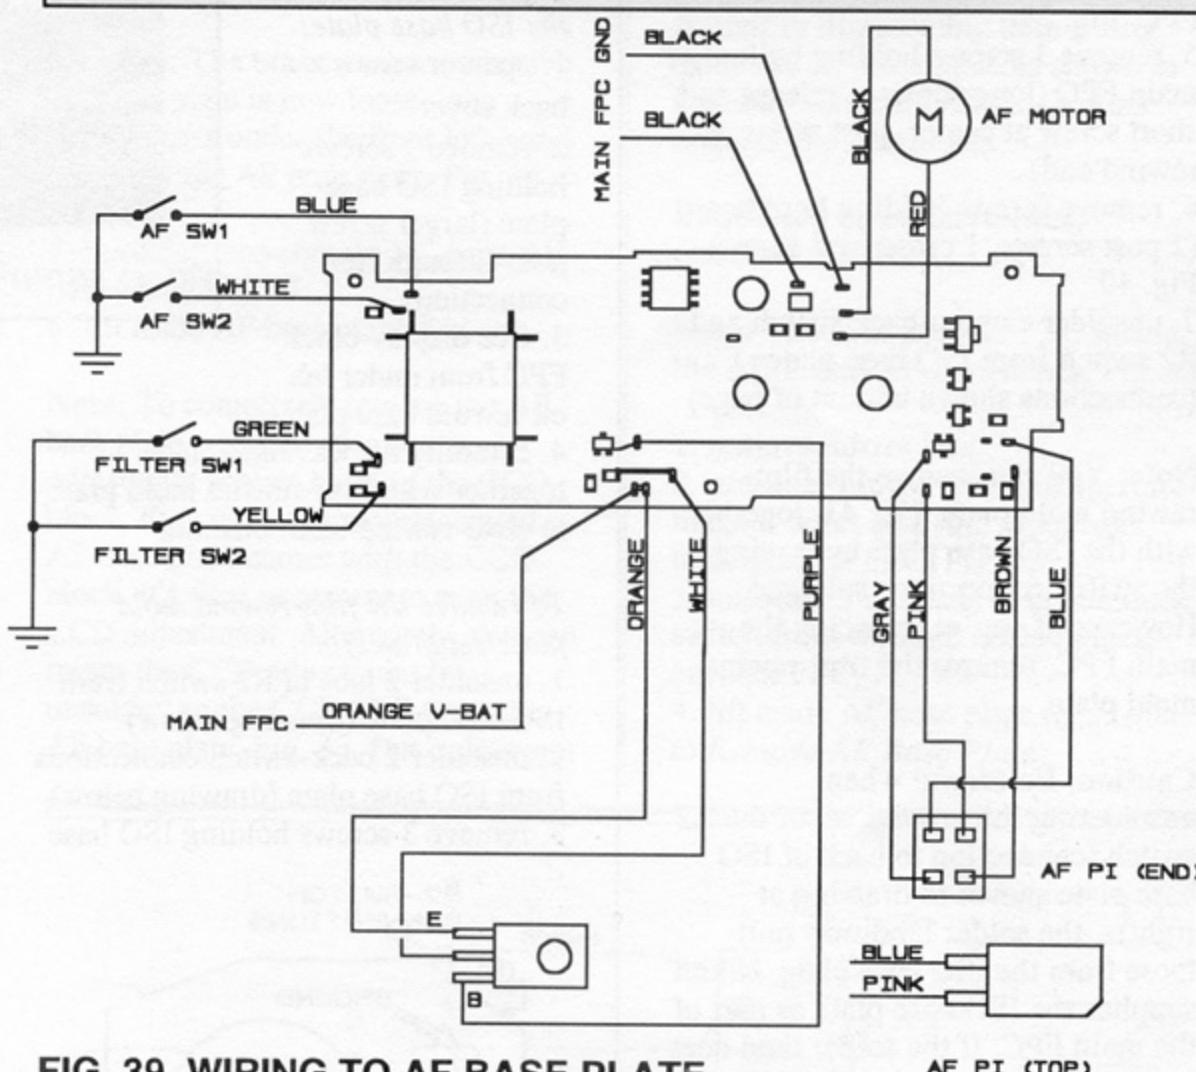

FIG. 39 WIRING TO AF BASE PLATE
3. unsolder wires from AF base plate, Fig. 39
Note: Unless you're replacing the AF base plate, it's not necessary to unsolder the orange and 2 black power wires, Fig. 39—you unsoldered the other ends of the wires to remove the mirror box.